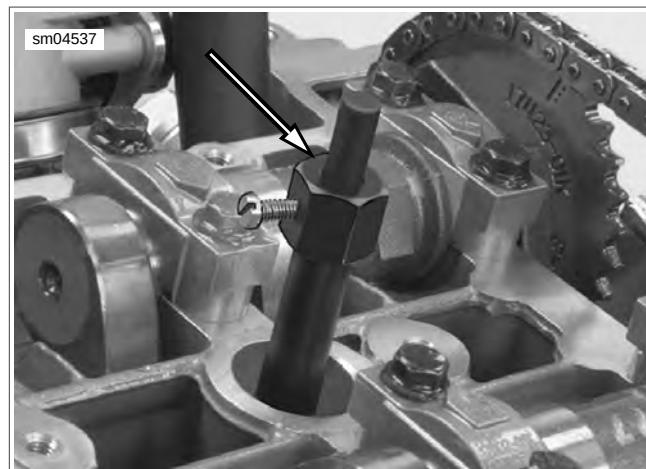

Figure 3-40. Top Dead Center Positioning Tool
1. See Figure 3-40. Using the TDC POSITIONING TOOL (Part No. HD-45653) in front cylinder spark plug hole, verify the crankshaft is at front cylinder TDC.